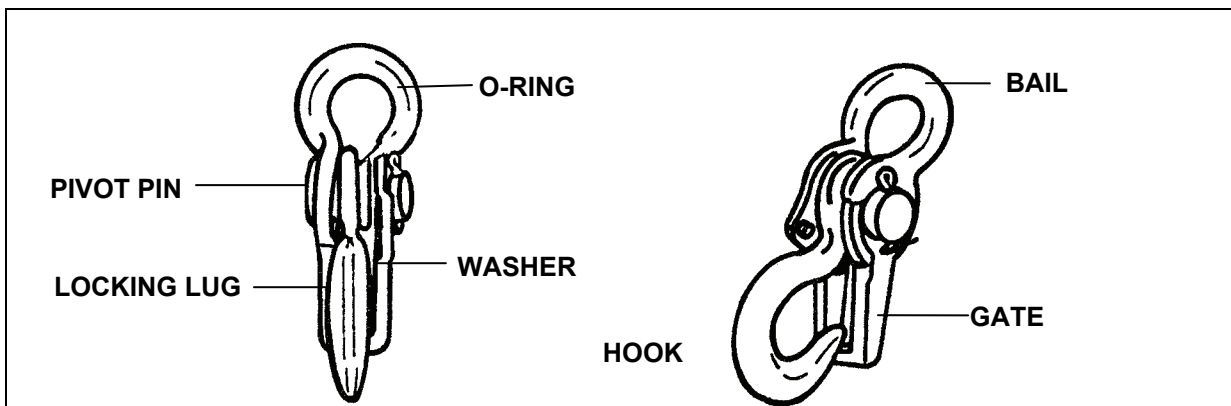
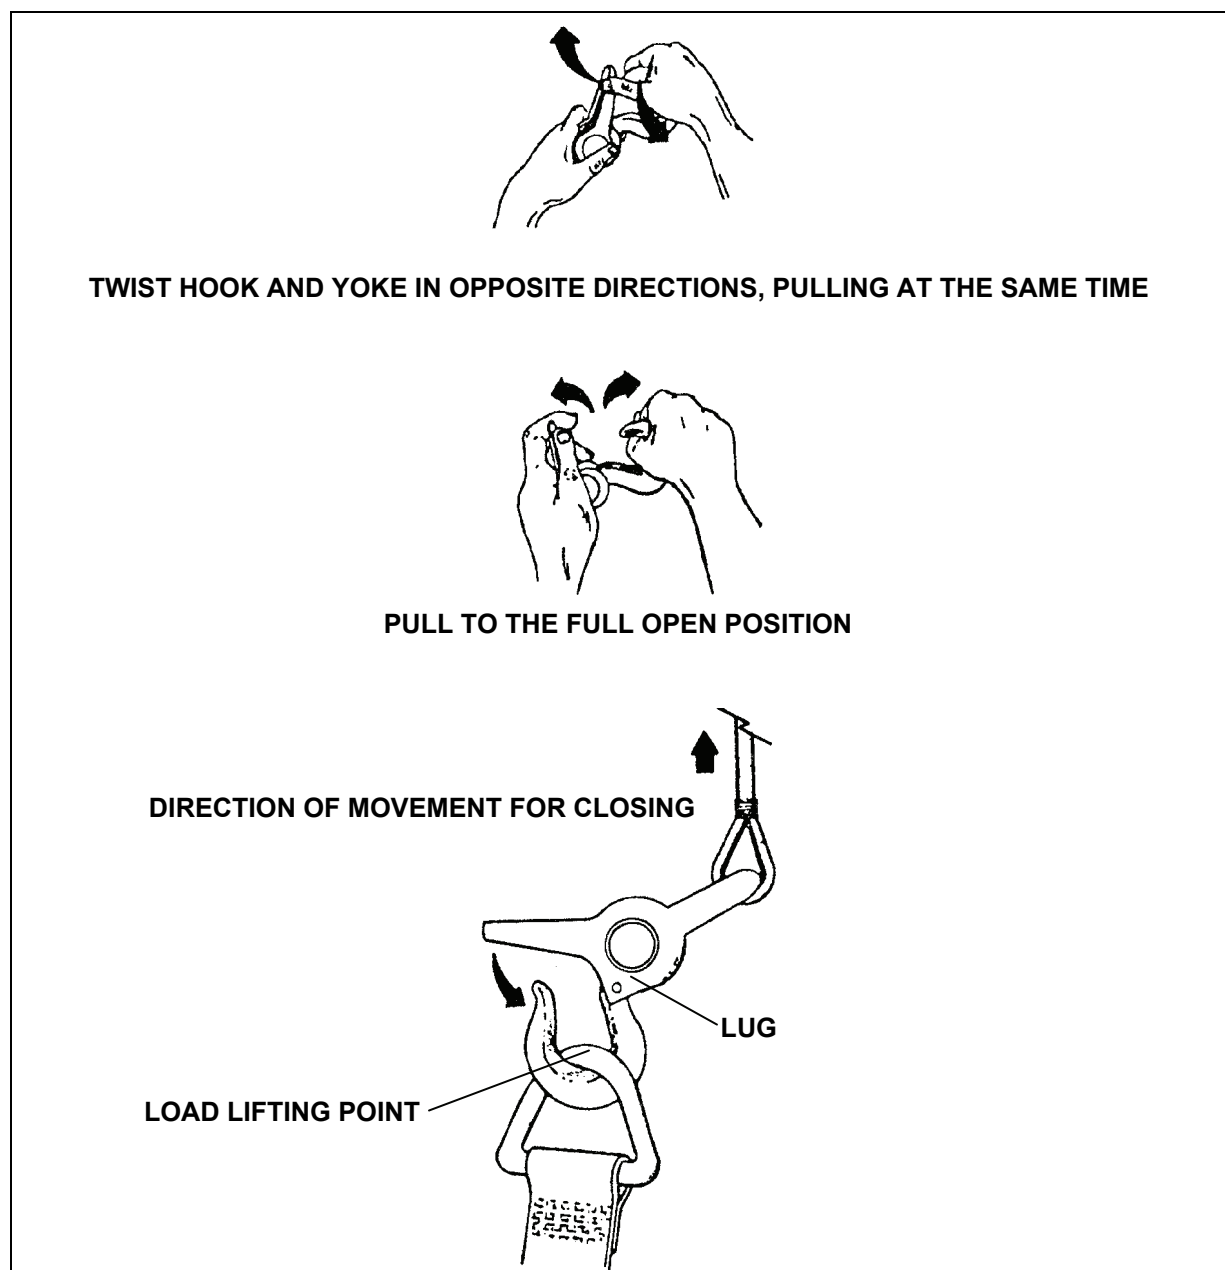

Figure 9-10. Safety Hook
Figure 9-11. Operation of Safety Hook
- **Safety Hook Operation.** The safety hook is the only moving part of the hoisting sling assembly legs (Figure 9-10). You must be able to operate the safety hook before you can attach the hoisting sling to a load. Instructions for hook operation (Figure 9-11) are as follows: